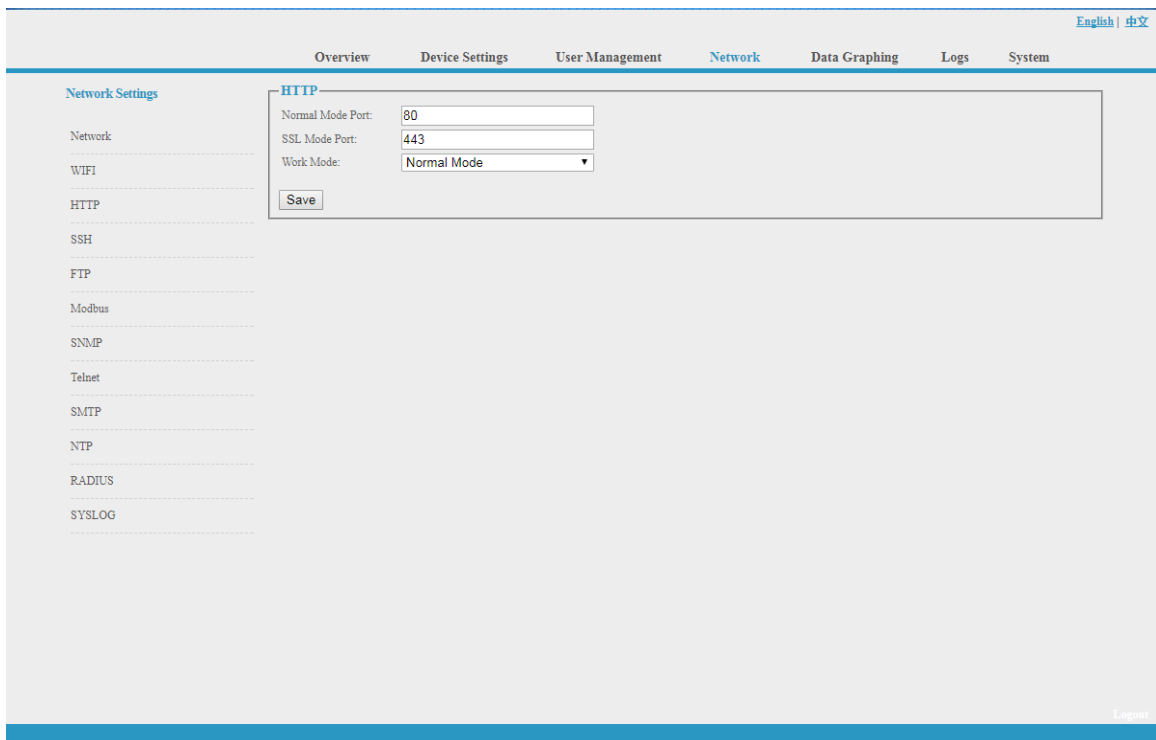

Figure 1-7
**Note:** please restart the software after the modification of HTTP settings. See figure 1-7